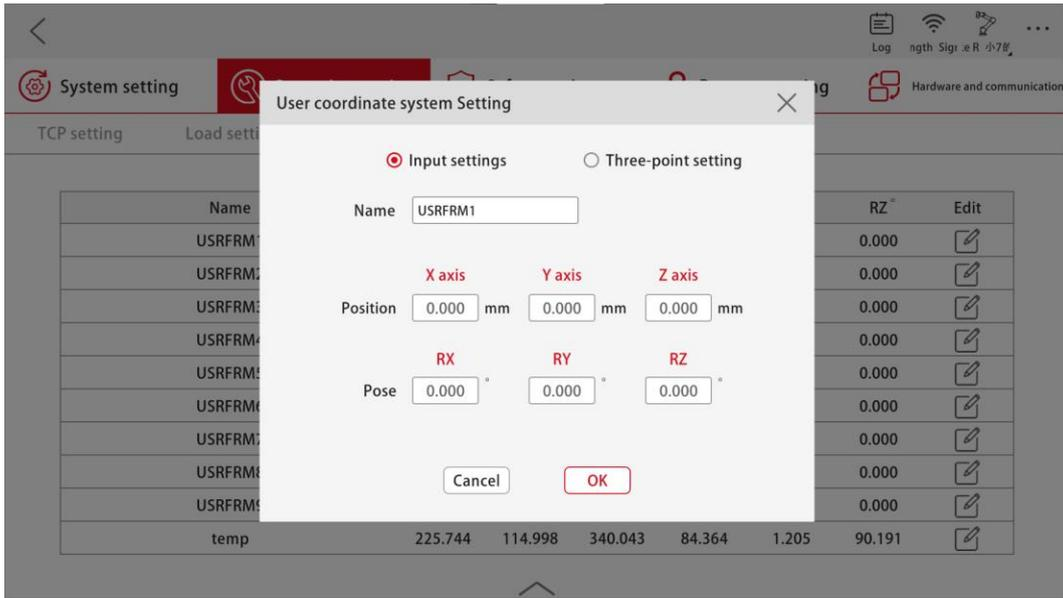

Figure 3-12 User Coordinate System Input Setting Interface
(1) Manual input (as shown in Figure 3-12): Users calculate the position offset of the required user coordinate system relative to the world coordinate system based on their needs, fill these calculated data into corresponding data boxes, and click OK to complete parameter editing.